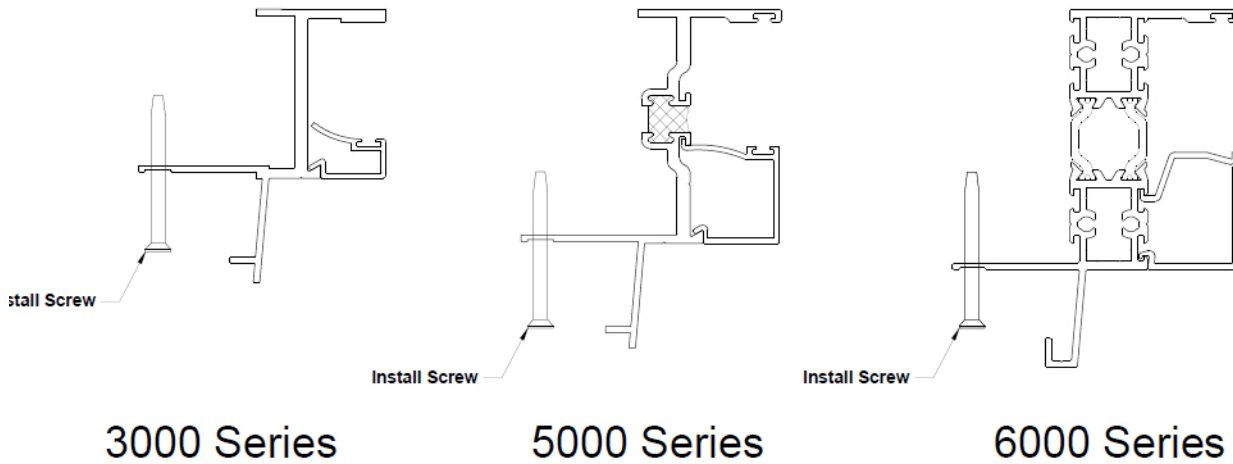
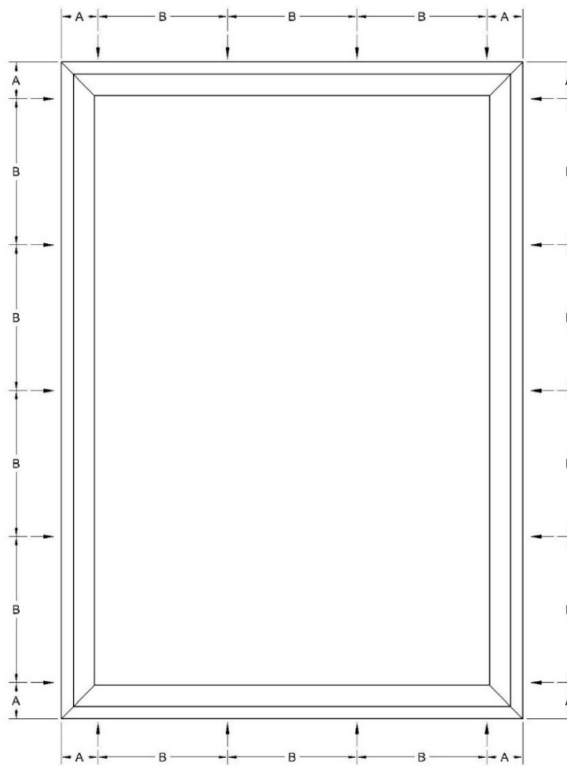

Figure 5a
Figure 5b
7. Secure window using #10 x 2 1/2" stainless steel screws (or equivalent). Install screws on the linear fin indicator as shown in Figure 5a; spacing should be as shown in Figure 5b where A = 3" and B = 12". Holes for screws should be pre-drilled before installation.